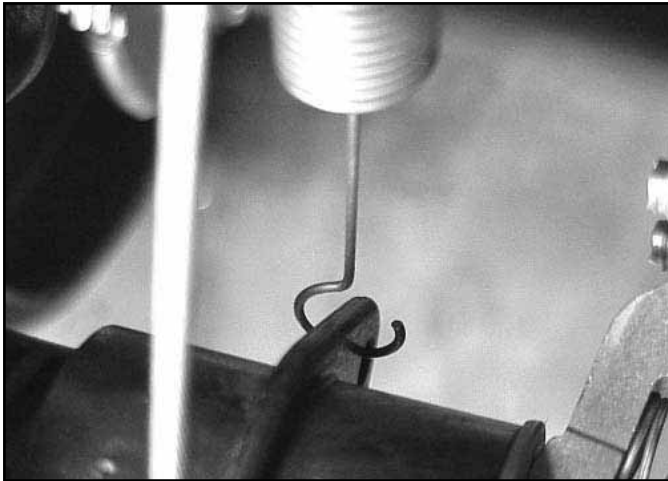
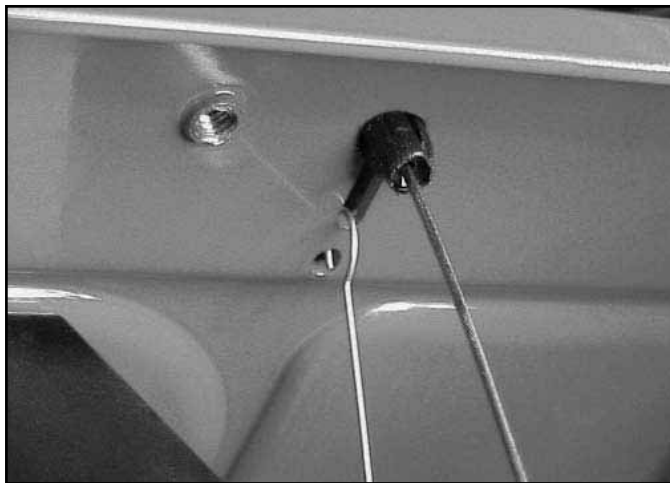

Fig 169
Fig 170
21. Install the 2 extension springs from the lower part of the shift collar flange (Fig. 169) to the housing (Fig. 170).